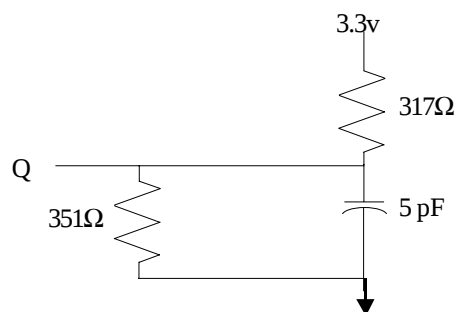

Fig. 2 OUTPUT LOAD EQUIVALENT
- The load used for V_{OH} , V_{OL} testing is shown in Figure 2. AC load current is higher than the shown DC values. AC I/O curves are available upon request.
4. This parameter is measured with the output loading shown in Figure 2.